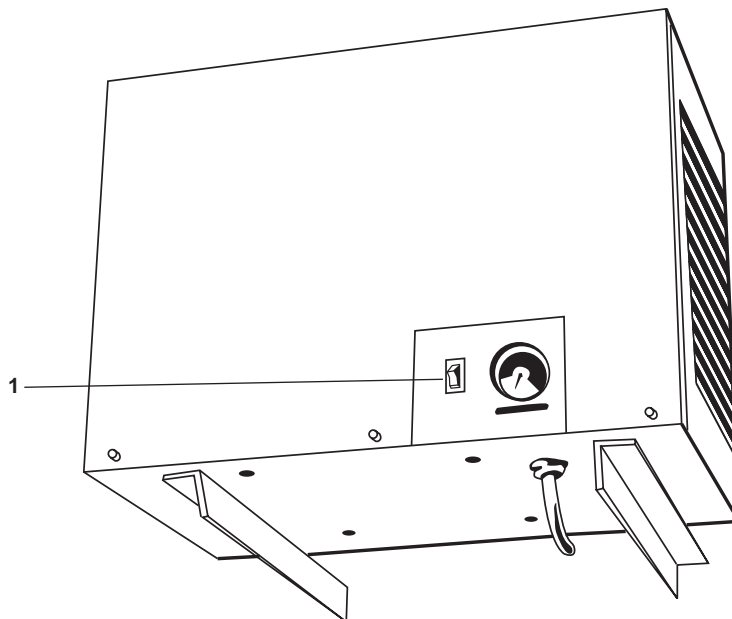

Figure 6. Control Air Dryer
- (1) In the forward port corner of the engine room, above SSDG 2, set the control air dryer switch (figure 6, item 1) to OFF.